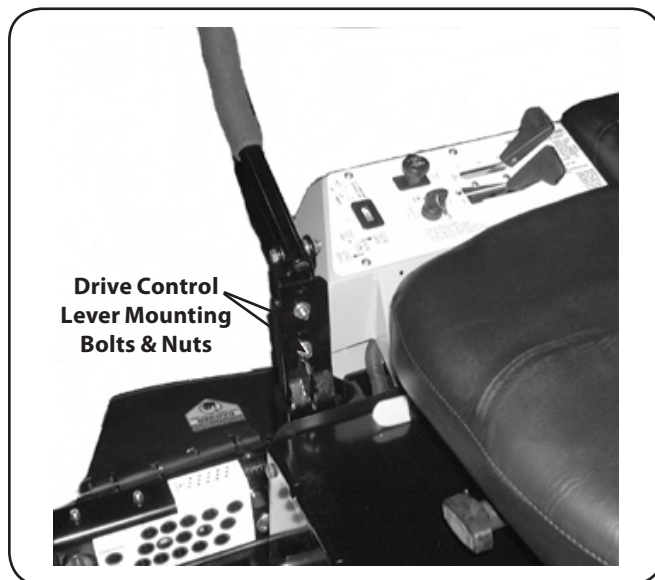

Figure 3-7
1. Remove the nuts from the control lever mounting bolts. See Fig. 3-7.